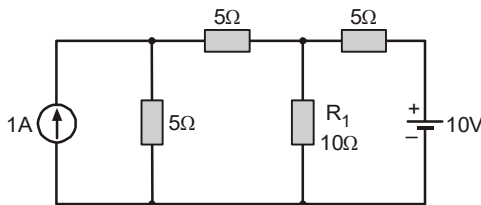

Fig.1.110: Given circuit
3. Using Mesh equation method, find current in the resistance R_1 of the network shown in Fig.1.110. (Ans. 0.625A)